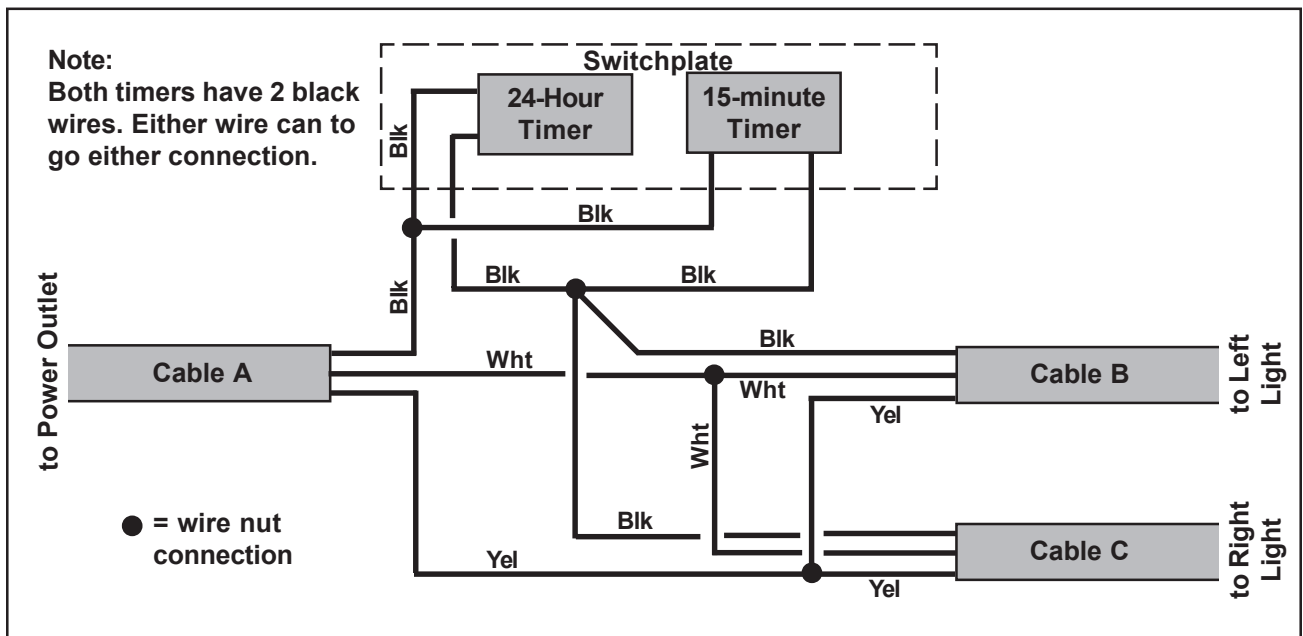

Figure 15. Light Timers - Wiring Diagram
1. Connect the wires in Cables A, B, and C to the wires from the two timers on the switchplate (Figure 15).